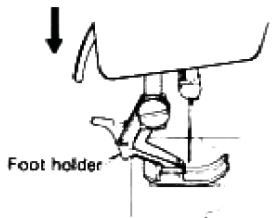

Fig. 2
2. Place desired foot on the needle plate aligning needle holes. Lower the presser foot lever so that foot holder snaps on the foot. (Fig. 2)